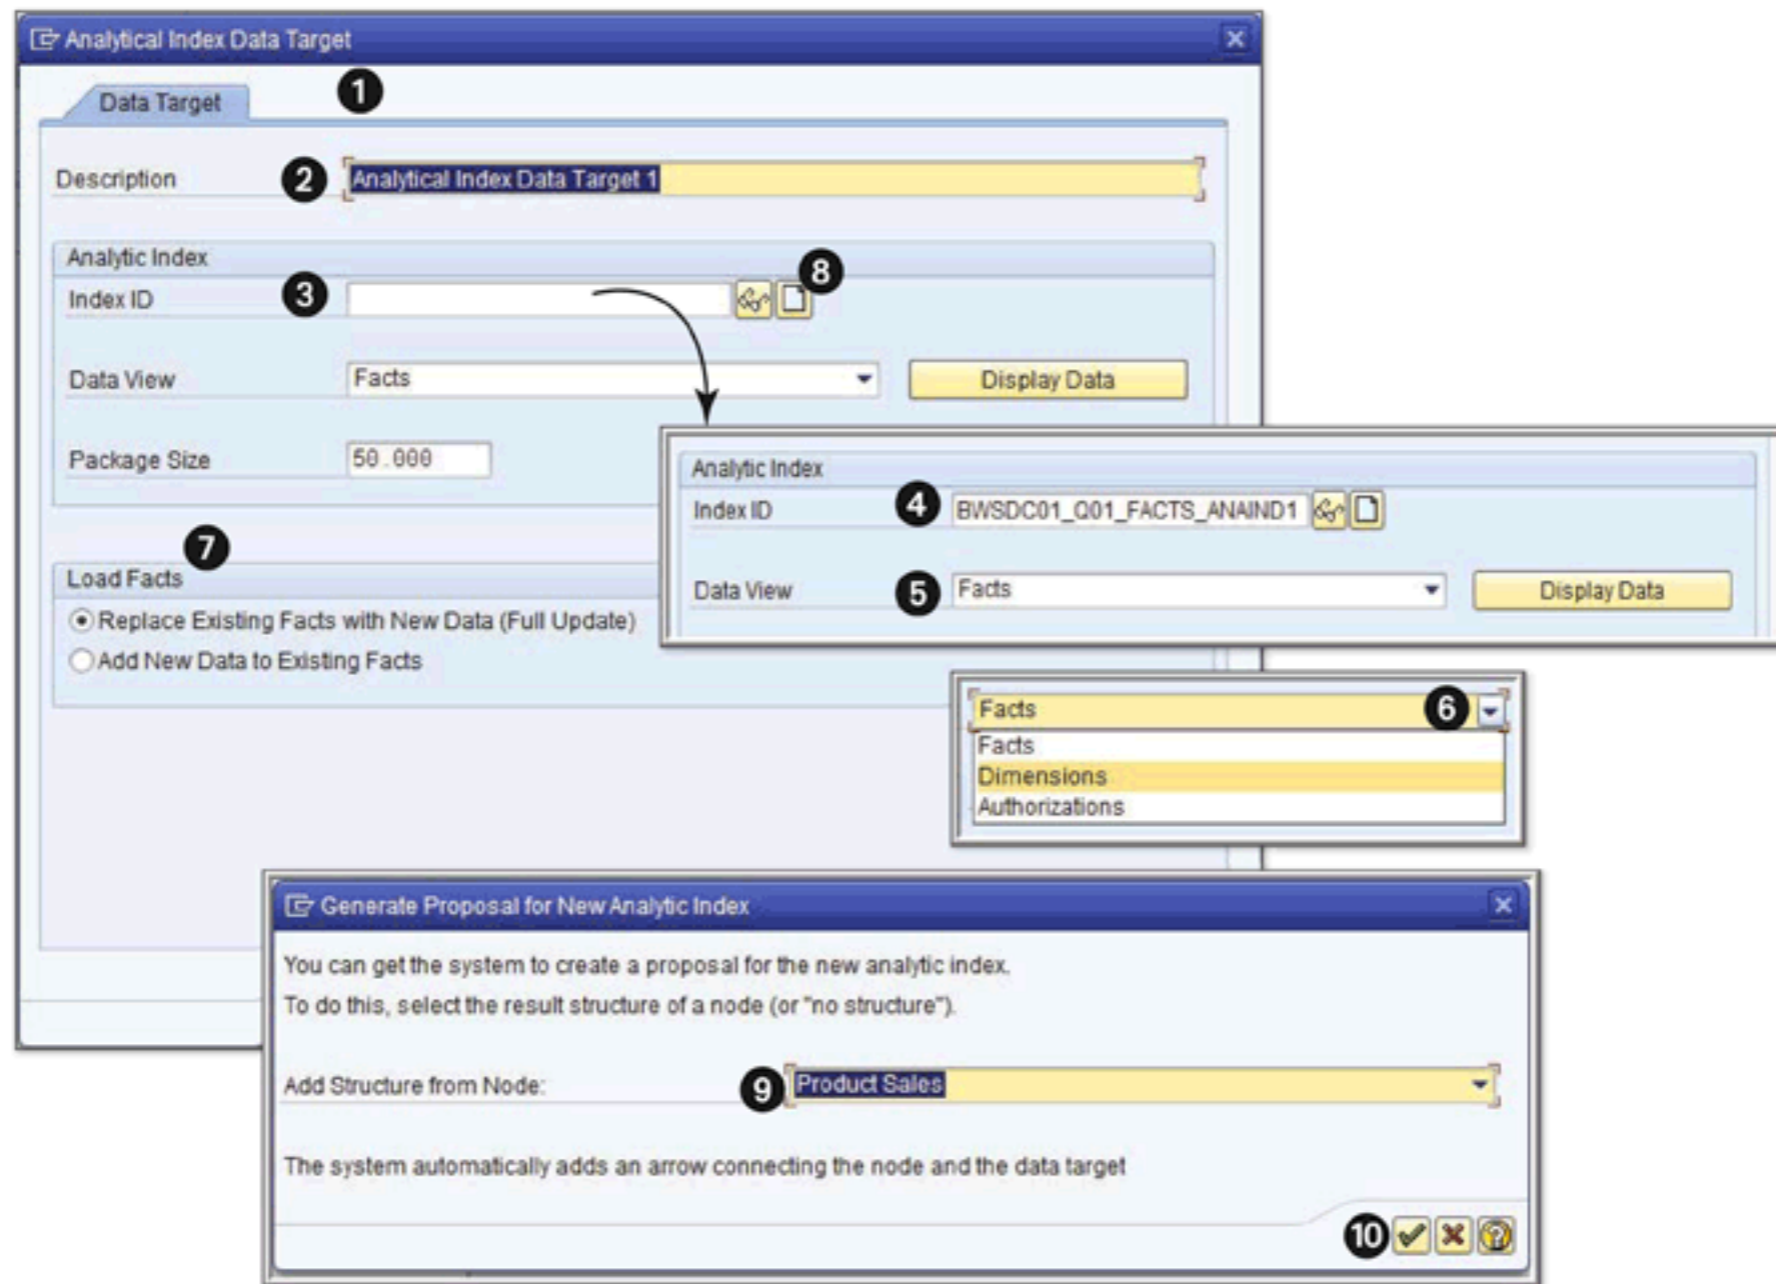

Figure 15.15 APD: Assigning Values to Data Target
Now drag and drop the analytical index (2) on the right panel to select it as the DATA TARGET (3). This action brings up the ANALYTICAL INDEX DATA TARGET pop-up box, as shown in 1 of Figure 15.15.
The analytical index will expect data to be in the form of dimensions and facts. When loading data, you can select whether you want to replace the existing facts with new data or add new data to existing facts (7 of Figure 15.15).